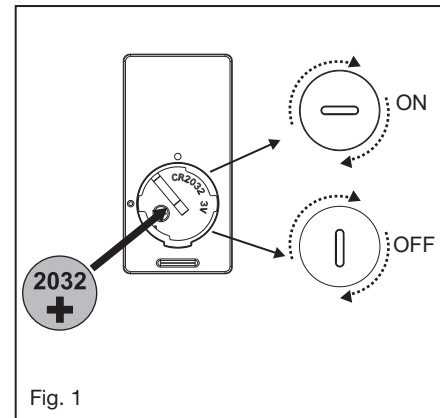

Fig. 1
- 1 Remove ball from downrod by loosening set screw in the side of the ball. Slide ball down and remove cross pin; remove ball. (Fig. 1)
1. Insert the receiver into the ceiling mounting bracket with the flat side of the receiver facing the ceiling. (Fig. 1) For best performance, make sure the Black Antenna and WIFI Antenna, on the end of the receiver, remains extended and not tangled with any of the electrical wires.
- 1 Select a desired location. Use the wall plate to mark the location of the mounting holes. Plastic wall anchors or mounting screws are needed for this application. (Fig. 1)
Remove the panel from the transmitter and then install one 2032 battery (included). You need to use a coin to open or close the battery cover. To prevent damage to transmitter, remove the battery if not use for long periods of time (Fig. 1)